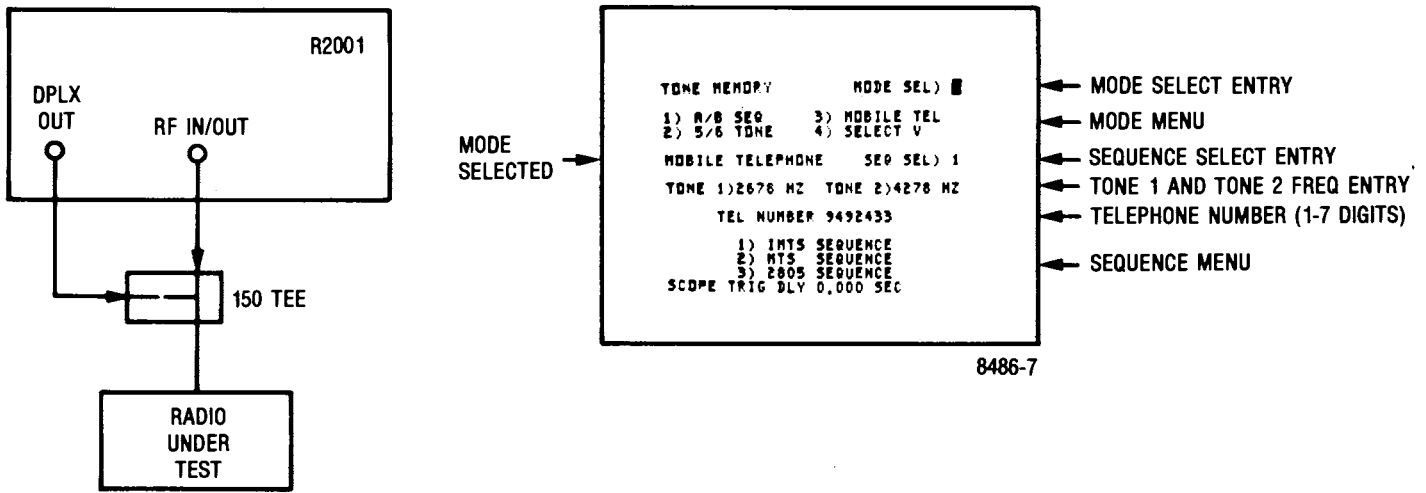

Figure 4-11. Test Setup for Mobile Telephone Test with CRT Display
d. Test Mobile Telephone Receiver and Supervisory Decoder (Figure 4-11).
9. Connect the system to be tested as shown in figure 4-11 and set the MODULATION switch as required to test the mobile telephone receiver and supervisory decoder.